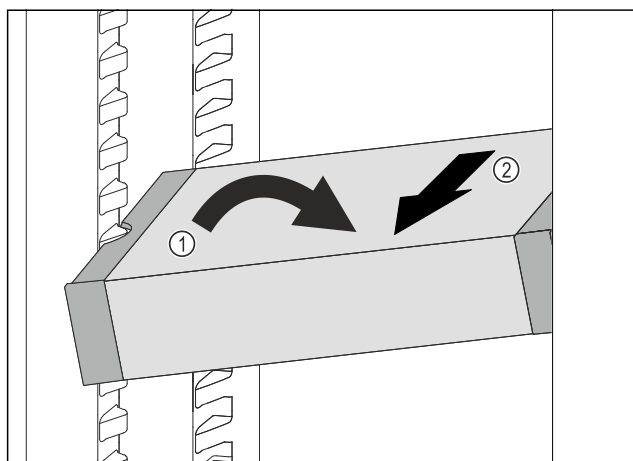

Fig. 98
- Set VarioSafe in refrigerator compartment at an angle. Fig. 98 (1)
- Take VarioSafe out to the front. Fig. 98 (2)